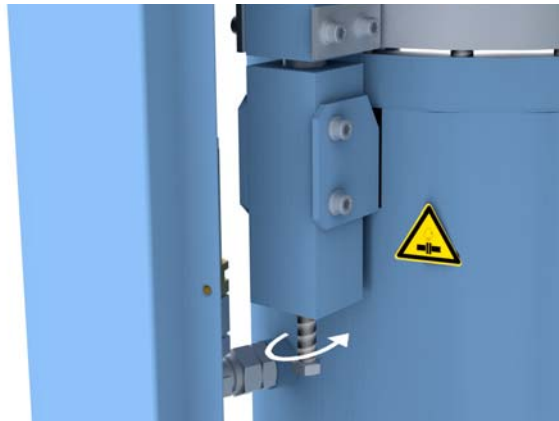

Fig. 6.18: Lift the lid using the lifting device
7. Screw in the lifting device screw on the compressed air-oil receiver (see arrow in Figure 6.18) and lift the lid of the compressed air-oil receiver by approx. 3 cm.